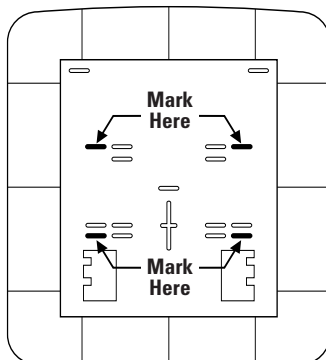

Figure 2
6. Mark the wall at two (2) mounting slots on the upper half of the dispenser and two (2) mounting slots on the lower half of the dispenser. An example is shown in Figure 2. Remove the dispenser.